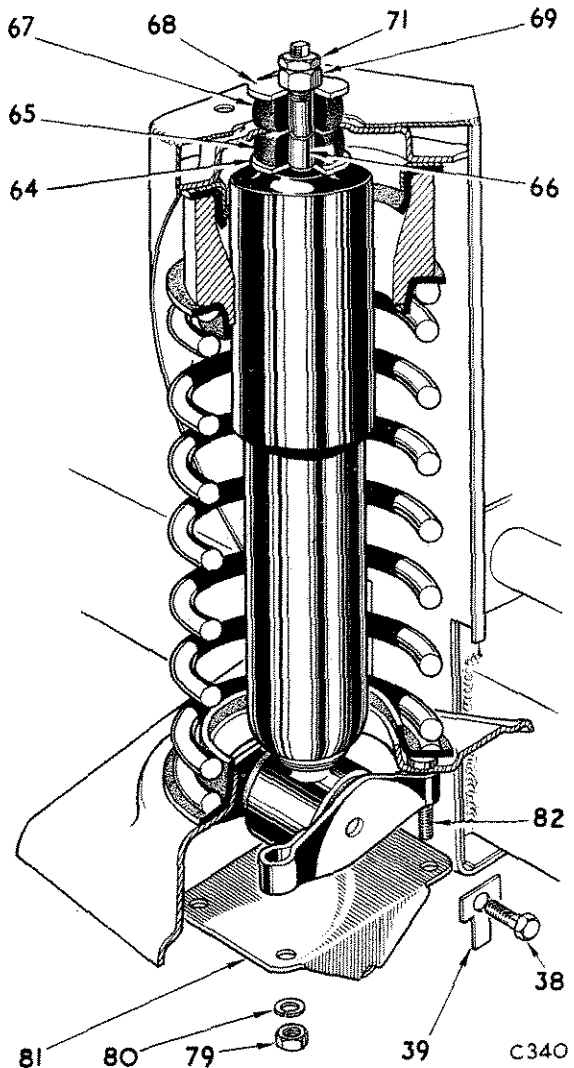

Fig. 6. Attachment of front damper
#### Removal (Fig. 6)
After pumping the damper as previously described, keep the damper upright and in the extended condition whilst passing it upwards through the aperture in the spring pan. Secure the upper end by fitting the washer (64), rubber bushes (65) and (67), sleeve (66), washer (68), nut (69) and locknut (71) as shown on Fig. 6.